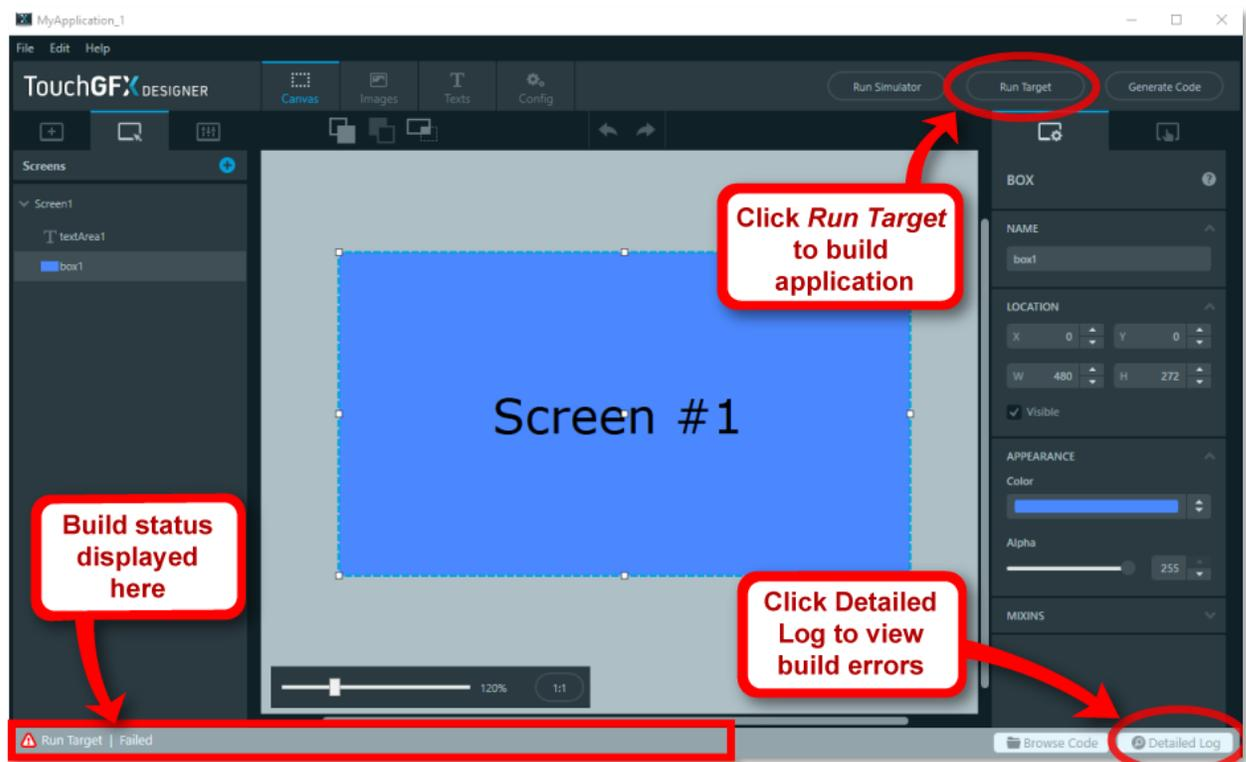
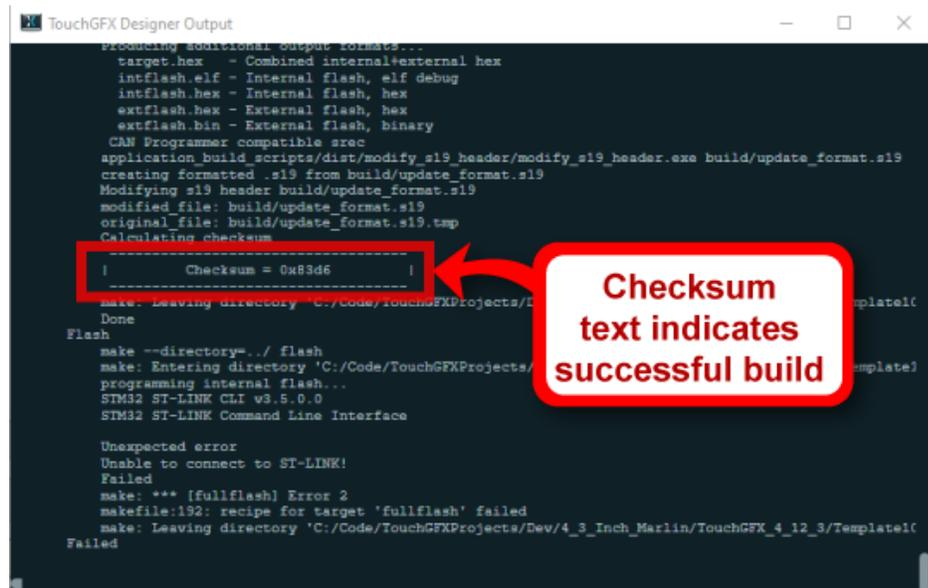

Figure 7
Figure 8
2. In TouchGFX Designer, click *Run Target* (as denoted in Figure 7) to build the application and generate the .s19 file that the Programming Tool will use to program the display. The status of the build is displayed at the bottom of the TouchGFX Design window (as indicated in Figure 7). When the build is complete, the build status is shown as “Run Target | Failed,” even if the build is successful. This is expected. A failure is indicated because TouchGFX Designer attempts (and is unable) to program the display. Programming will be carried out in a later step.
If the application builds successfully, the file `update_format.s19` will be created (or, if it already exists, modified with the current time and date) in the `build` folder in the project directory. The outcome of the build will also be indicated near the bottom of the detailed log. The detailed log is accessed by clicking the *Detailed Log* in the lower right corner of the TouchGFX Designer window (as shown in Figure 7). For a successful build, the log indicates that `update_format.s19` has been created (or modified) and displays the program’s checksum. Otherwise, the log will indicate which errors prevented a successful build. A quick way to check if a build successful is to look for the checksum text in the log, as shown in Figure 8: